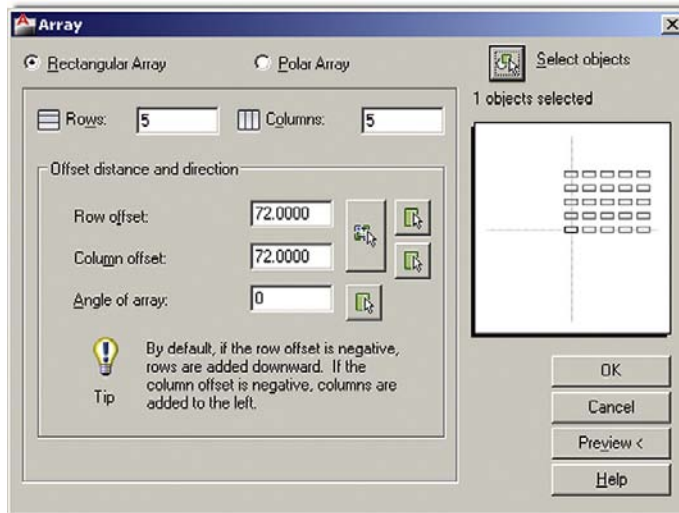

FIGURE 8.5
Step 1. Start up the Array command just as in the previous polar array exercise. The Array dialog box appears as before. Be sure to pick the other choice, Rectangular Array, this time (Figure 8.5).